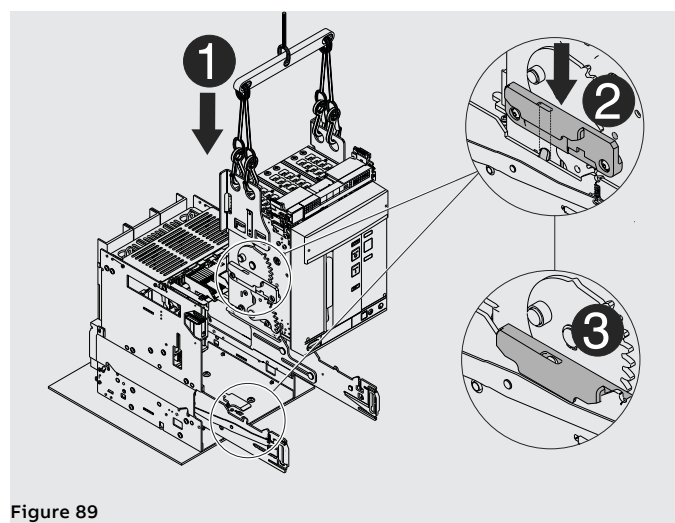

Figure 89
4. Position the moving part on the guides of the fixed part. Latch by inserting the hollow part of the side in the latch of the guide of the fixed part See Figure 89.